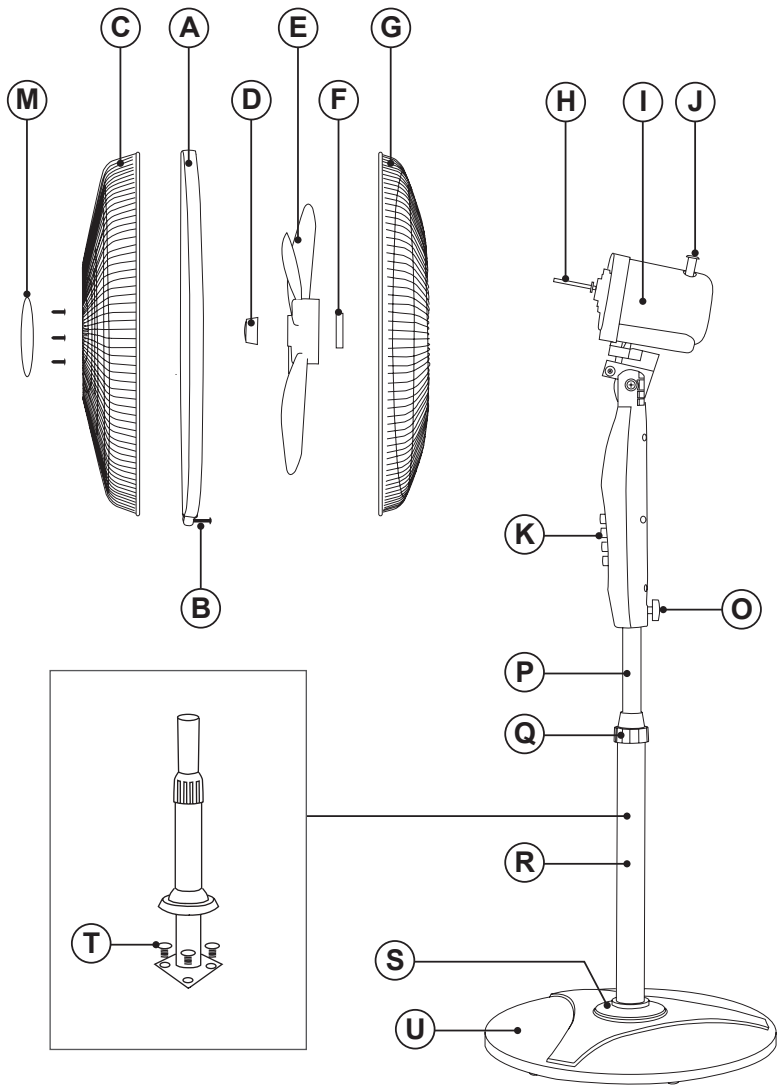

Fig.1
- Fit the base onto the main body and secure with the screws provided (Fig.1).